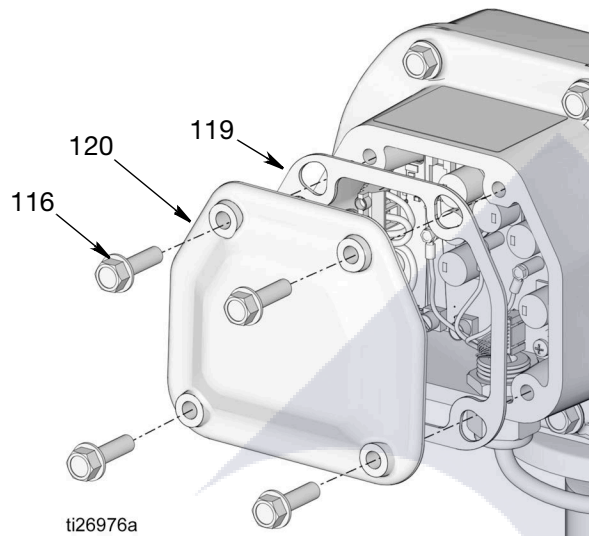

FIG. 65
5. Remove screws (116) from motor control box cover (120) and remove cover and gasket (119) (FIG. 65).